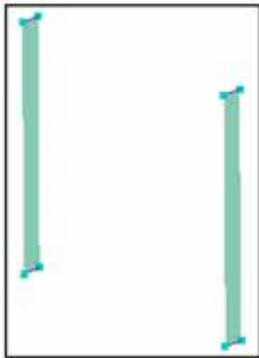

Figure 40: Regions created by nodes
7. **Repeat** steps 4 and 5 to create the second rib. The regions create should look like Figure 40.